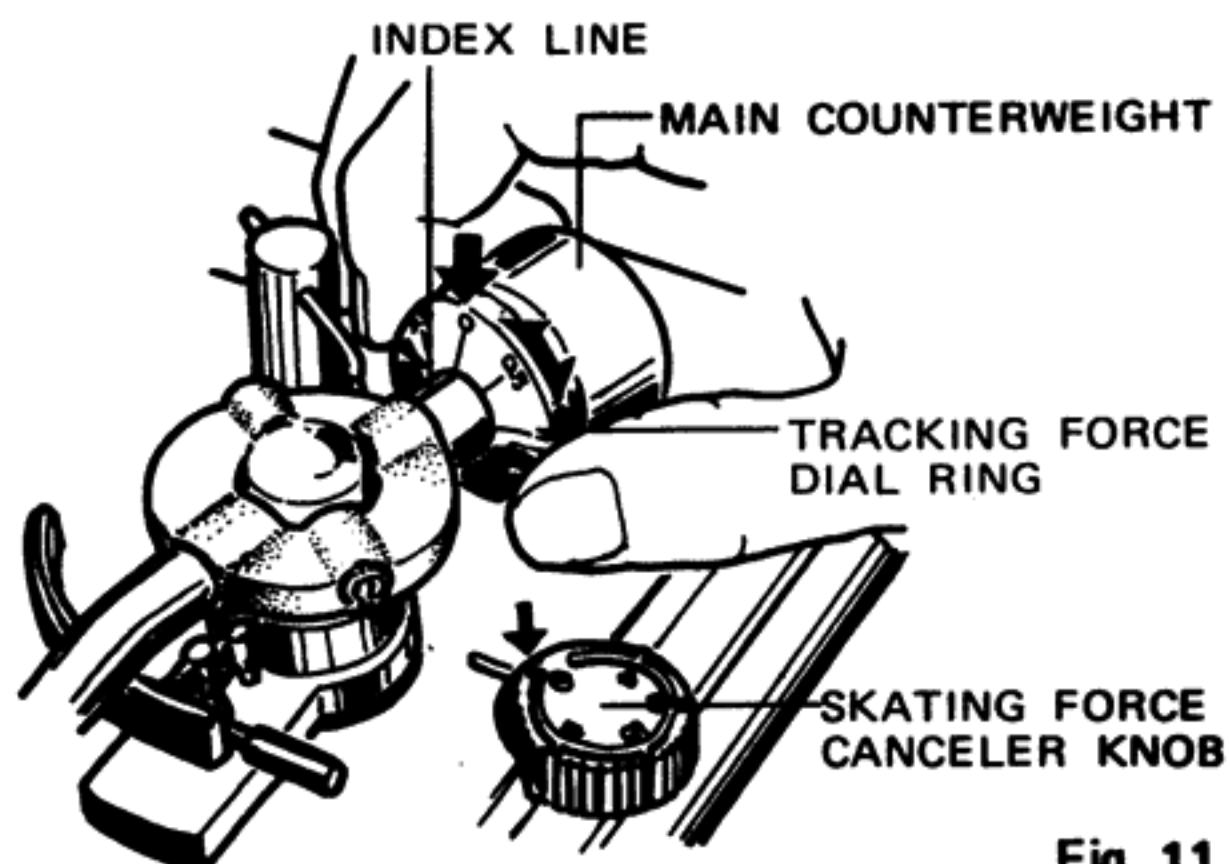

Fig. 11
7. After confirming perfect adjustment in step 6, with care taken not to move the main counterweight, turn the tracking force dial ring until the "0" reading aligns with the black index line engraved on the tonearm (Fig. 11).